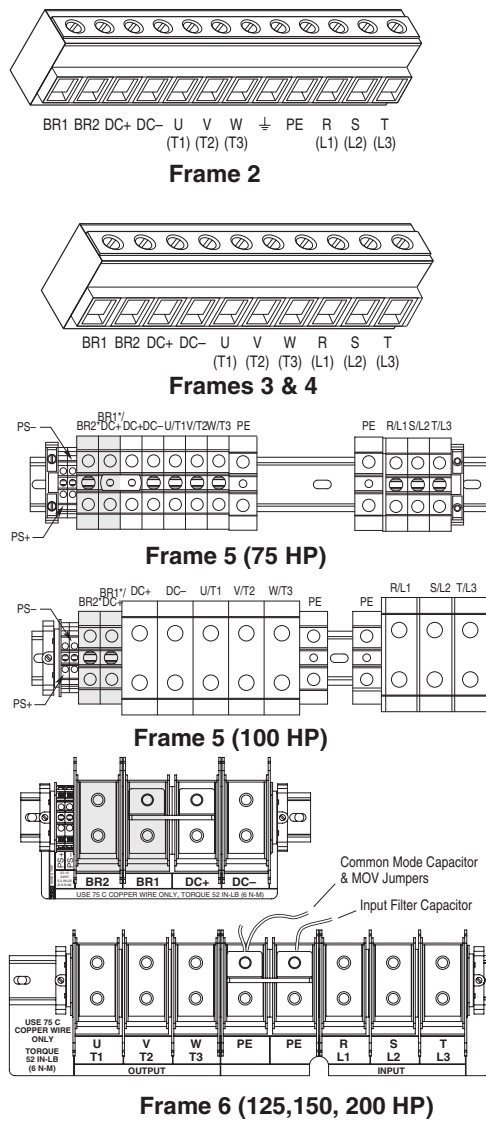

Figure 6.2 – Power Terminal Block
This chapter provides instructions on output wiring to the motor and installing AC input power wiring. Refer to figure 6.2 at the end of this chapter for a description of the power terminal block.
- Step 2. Connect the three-phase AC output power motor leads to terminals U/T1, V/T2, and W/T3 on the power terminal block. See figure 6.2.
- Step 2. Connect the three-phase AC input power leads to the appropriate terminals. Connect the AC input power leads to terminals R/L1, S/L2, T/L3 on the power terminal block (see figure 6.2).